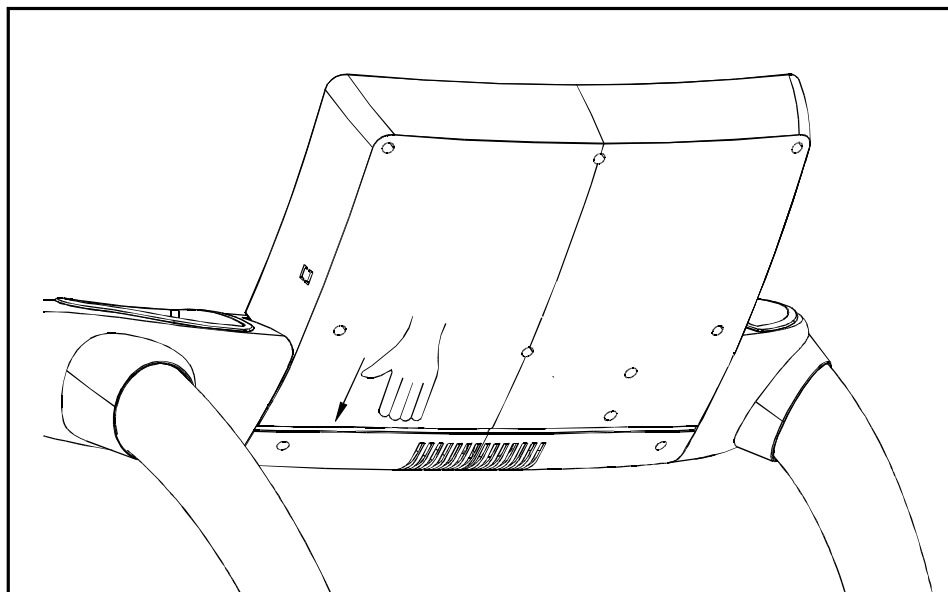

Fig.8-1
**STEP 3.** With one hand behind the display for support, push the display down gently until it connects securely. If it does not connect securely, please try again. Proceed to the next step only after the display connects securely. (See Fig. 8-1 ~ 8-3.)